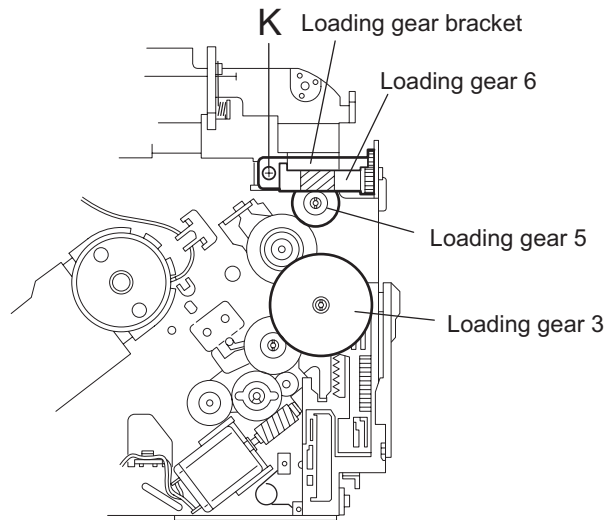
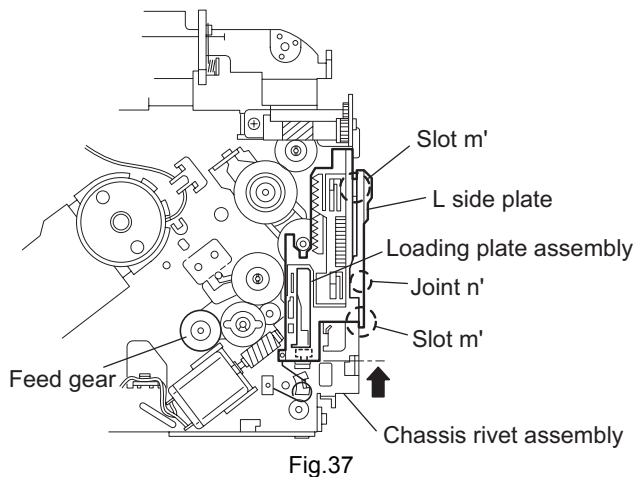
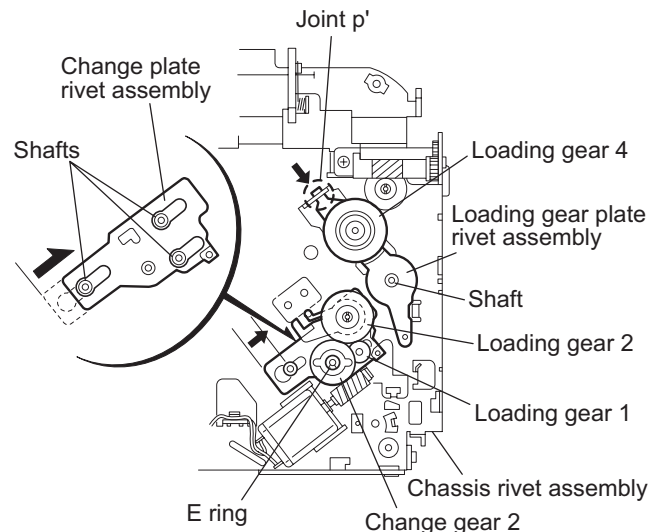

Fig.35
Fig.37
Fig.38
(See Figs.35 and 36)
(See Figs.37 to 40)
- Pull out the loading gear 3. (See Fig.35.)
- (1) Pull out the feed gear.
- (2) Move the loading plate assembly in the direction of the arrow to release the L side plate from the two slots m' of the chassis rivet assembly. (See Fig.37.)
- (3) Detach the loading plate assembly upward from the chassis rivet assembly while releasing the joint n'. Remove the slide hook and loading plate spring from the loading plate assembly.
- (4) Pull out the loading gear 2 and remove the change lock lever.
- (5) Remove the E ring and washer attaching the changer gear 2.
- (6) The changer gear 2, change gear spring and adjusting washer come off.
- (7) Remove the loading gear 1.
- (8) Move the change plate rivet assembly in the direction of the arrow to release from the three shafts of the chassis rivet assembly upward. (See Fig.38.)
- (9) Detach the loading gear plate rivet assembly from the shaft of the chassis rivet assembly upward while releasing the joint p'. (See Figs.38 and 40.)
- (10) Pull out the loading gear 4.